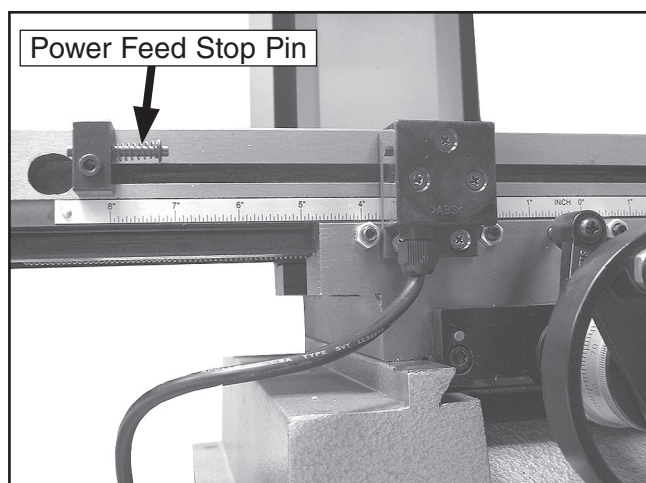

Figure 23. Power feed stop pin lubrication.
- Oil power feed stop pins (**Figure 23**).